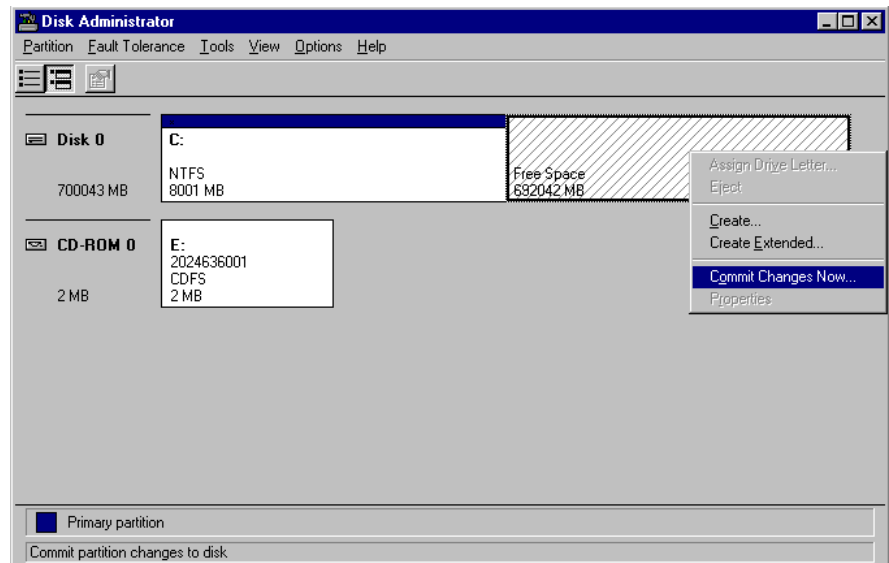

Figure 002
13. Right click on the *Free Space* partition and select *Commit Changes Now...*(see Figure 002).